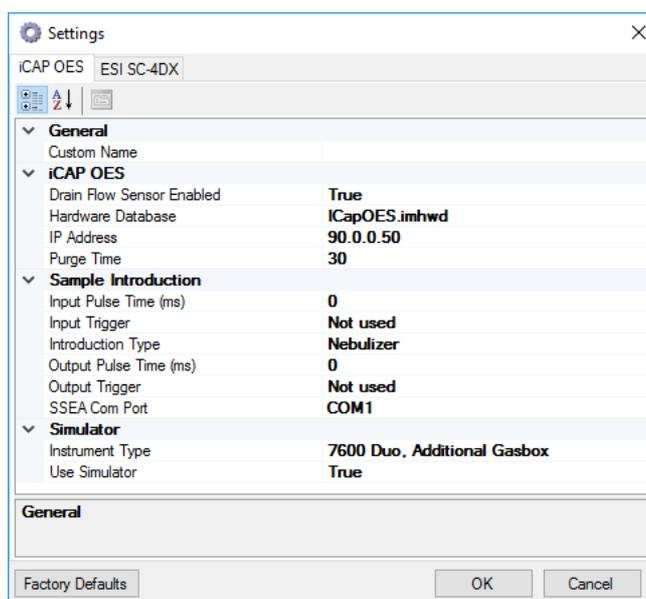

Figure 3-12. Settings dialog for iCAP OES in Configurator
2. Click **Edit settings** to open the **Settings** dialog, see Figure 3-12.